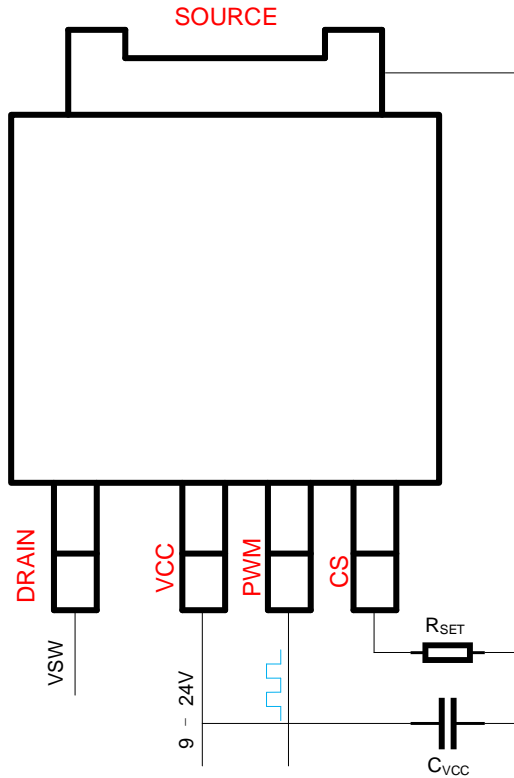

Figure 18. IC connection diagram
The typical connection diagram for this GaN Power IC is shown in Fig 18. The IC pins include drain of the GaN power FET (D), source of the GaN power FET (S), IC supply ( $V_{CC}$ ), PWM input (PWM), and current sensing output (CS). The external components around the IC include  $V_{CC}$  filter capacitor ( $C_{VCC}$ ) connected between  $V_{CC}$  pin and S pin, a current sense amplitude set resistor ( $R_{SET}$ ) connected between CS pin and S.